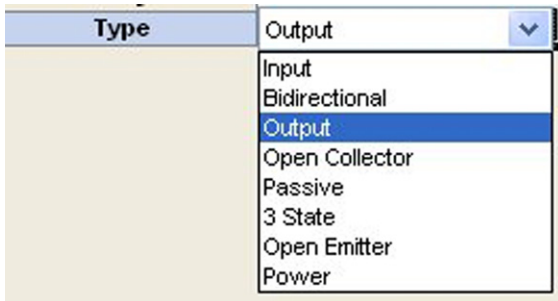

FIGURE 20.45
7. Double click on the clk port to open the **Property Editor**. Click on the pull-down menu for the **Type** property value and select **Output** (Figure 20.45). Close the **Property Editor**. The VCC port will be of type **input** by default. Close and save the schematic.